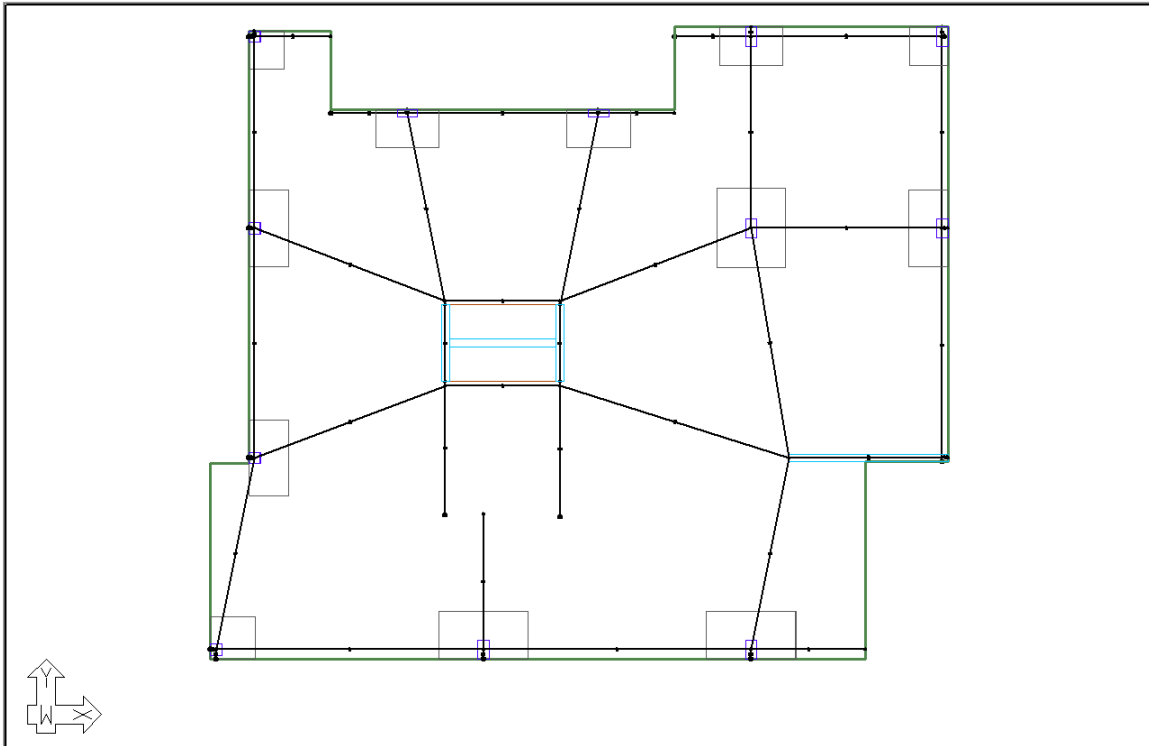

FIGURE 10-8
- At this point the user's support lines should look like those shown in **FIGURE 10-8**.